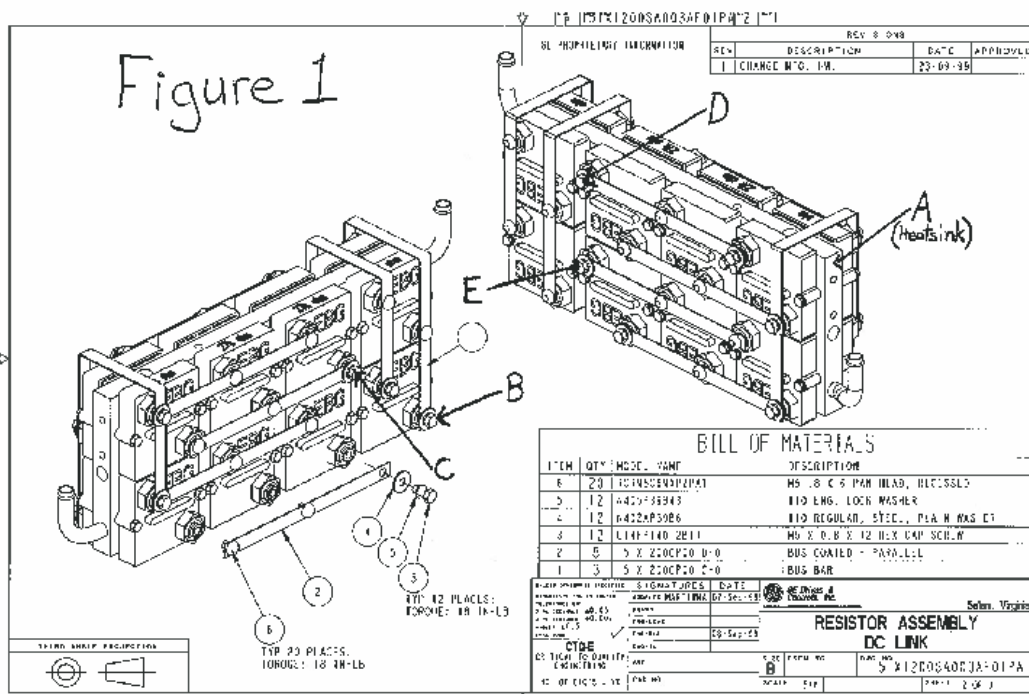

Figure 1
7.1.1 Using figure 1, make the following measurements: